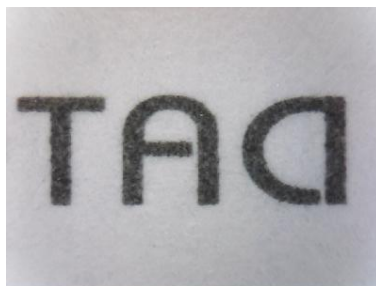

Fig. 3-20 Video image do horizontal flip
- ⊕ Horizontal Flip “” : The video image left and right mirror 180 degree flip which is horizontal flip shown in Fig. 3-20 ◦